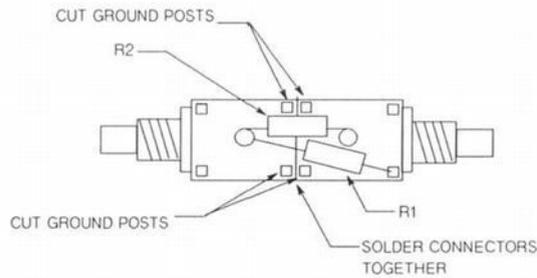

FIGURE 5-2. REPLACEMENT IMPEDANCE MATCHING NETWORK
2. Solder two SMC right angle pc board connectors (1250-0836) together as shown in Figures 5-2 and 5-4.